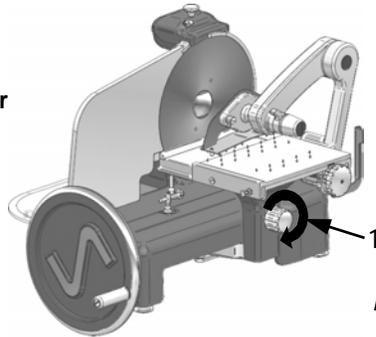

Fig.32
- Check that the plate is properly secured with the locking knob (ref.1 Fig.32);